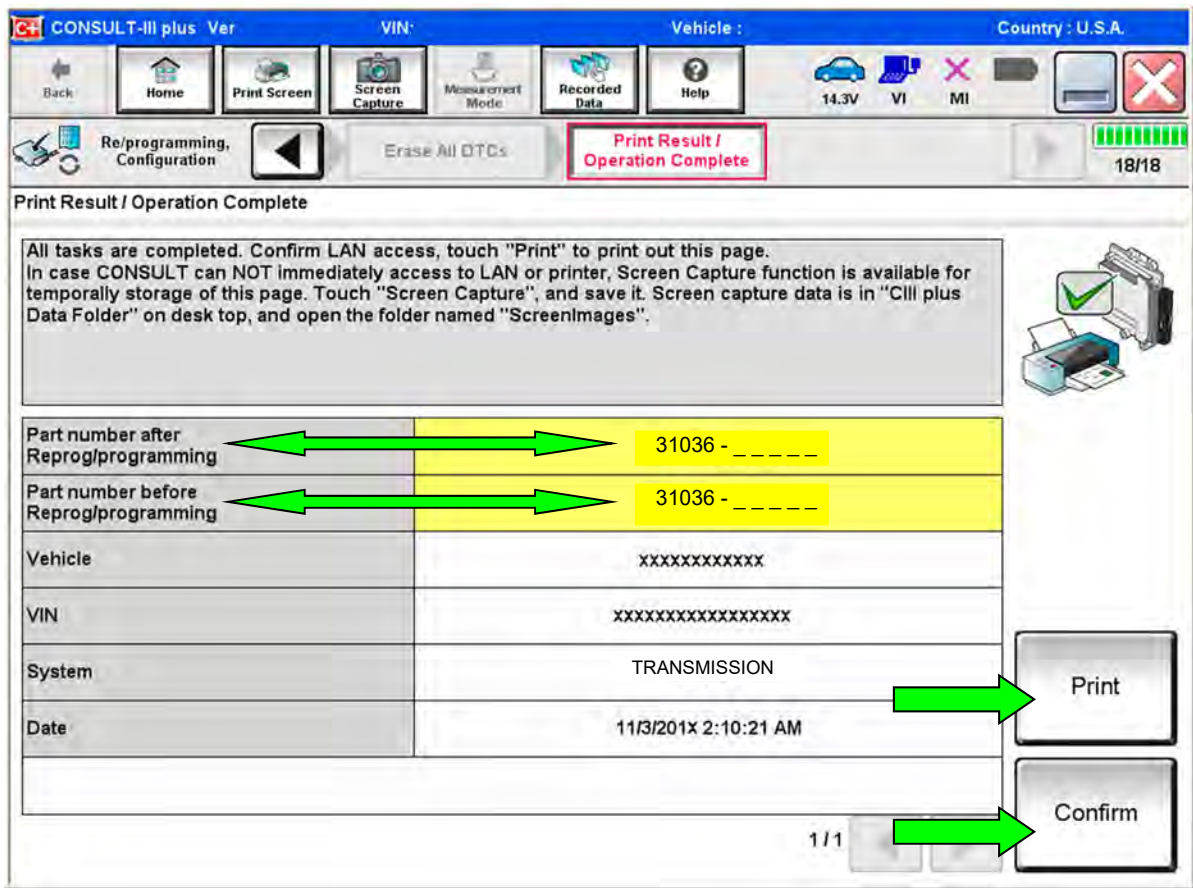

Figure 162
- 144. When the entire reprogramming process is complete, the screen in Figure 162 will display.
- 146. Print a copy of this screen (Figure 162) and attach it to the repair order for warranty documentation.